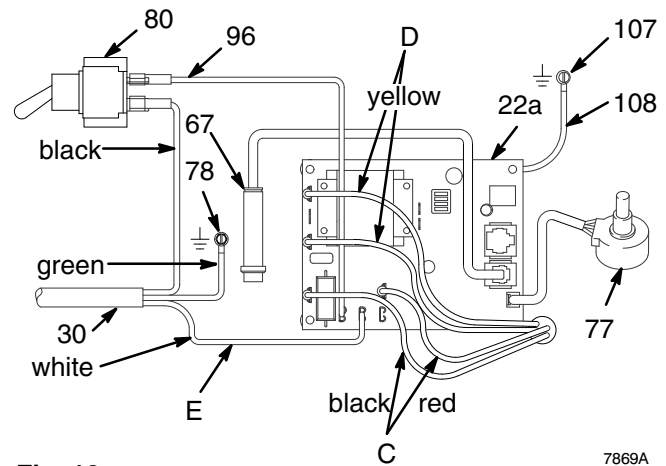

Fig. 13
4. Remove screws (25, 26). Lower control board (22a). Disconnect two leads (C) from motor to board. See Fig. 13.
1. Connect red and black motor leads (C) together with a test lead. Turn motor fan by hand at about two revolutions per second. See Fig. 13.
8. Tap lower rear of drive housing (2) with a plastic mallet to loosen motor. Pull drive housing straight off motor while guiding pressure transducer wire (A) from motor. Do not allow gear (13) to fall. Read **CAUTION** on page 26.
9. Remove four screws (75) and lift motor off cart (70).
10. Align new motor with cart and reinstall screws (75).
12. Connect wires to motor control board (22a). Refer to Fig. 13. Install motor control board.
13. Connect piston rod (222) to drive housing; see page 22, **Installing Pump**, Step 2 and **WARNING** following it.
14. Install motor shield (32) and drive housing cover (11).